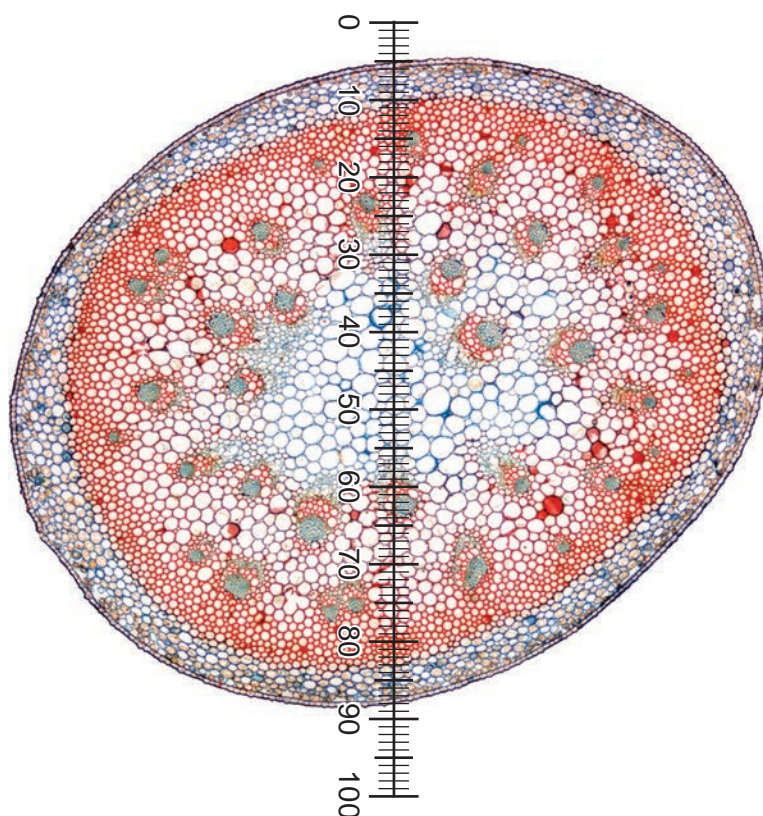

Fig. 2.3
Fig. 2.3 shows a photomicrograph of a section of a stem, viewed using a microscope with an eyepiece graticule.
- (ii) The eyepiece graticule shown in Fig. 2.3 has been placed across the diameter of the section.
Use the calibration of the eyepiece graticule unit from **(c)(i)** to calculate the actual diameter of the section in Fig. 2.3.